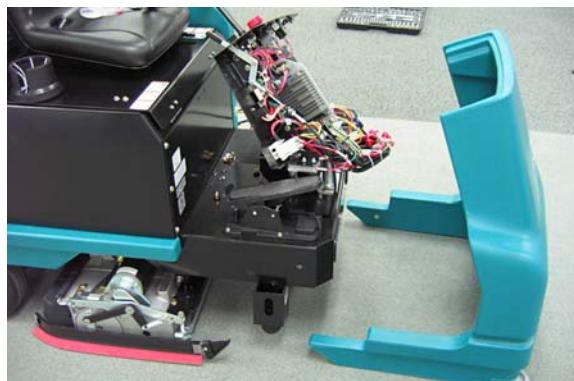

Fig. 2
4. Disconnect the instrument panel from the front shroud then remove the shroud from machine (Figure 2).
4. Reinstall the machine's front shroud and reconnect the instrument panel (Figure 2).